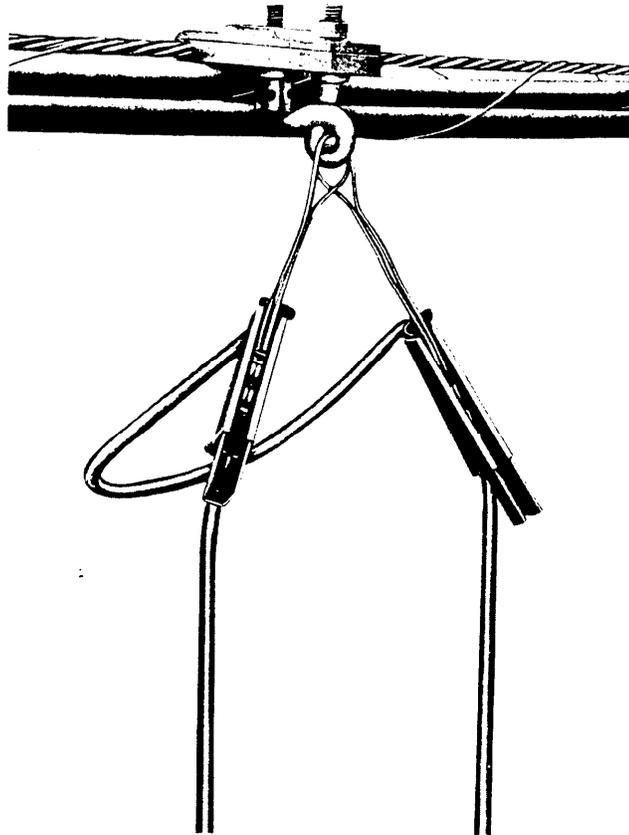

Fig. 29-F Span Clamp Installed on Strand
- (8) Disengage the B clamp wrench from the span clamp assembly by providing a sharp reverse twisting motion on the tree pruner handle to unseat the wrench. Once loosened, unscrew the wrench completely from the clamp screw, leaving the span clamp installed on the strand as illustrated in Fig. 29.